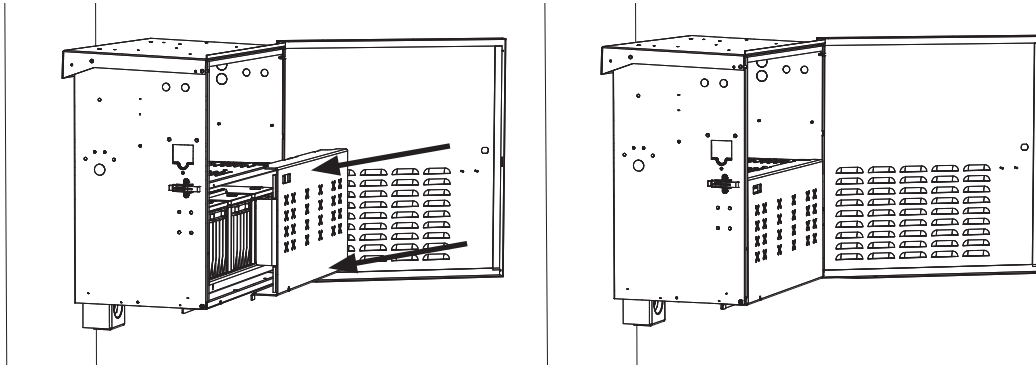

Fig. 3, Shield Placement
7. Affix the top of the shield into position and press the bottom into place along the weld-bracket (See Fig. 3).